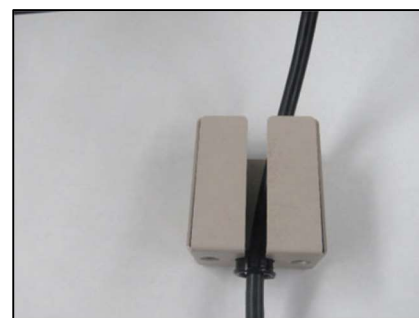

FIGURE 10
3.1.3. Retrieve the Grommet from the installation packet. Place Grommet around the Power Cord, push the Power Cord into the slot on the Cover, and press the Grommet into the hole in the Cover (See Figure 10).
3.3.2. Retrieve a Grommet from the installation packet. Place Grommet around the Power Cord, push the Power Cords into the slot on the Cover, and press the Grommet into the hole in the Cover (similar to Slit Lamp Arm Cover in Figure 10).